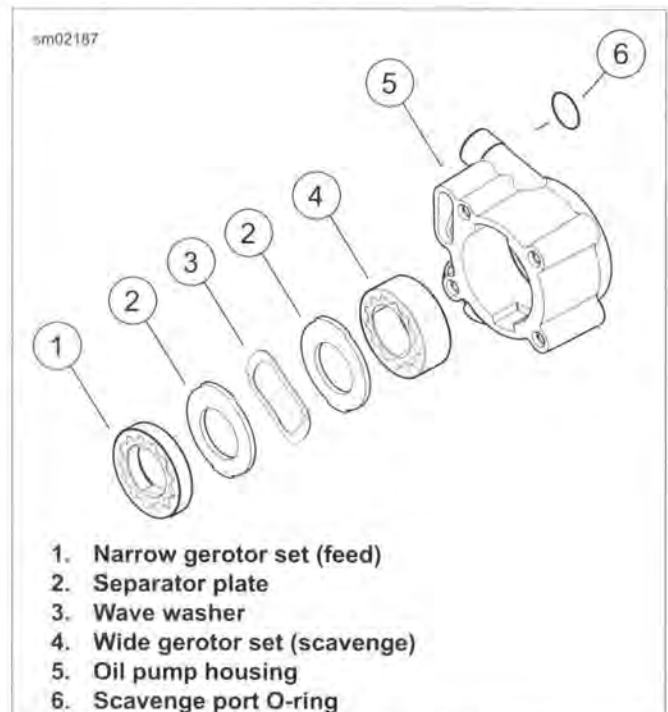

Figure 3-108. Assembling Oil Pump
5. See Figure 3-108. Disassemble and inspect oil pump components.